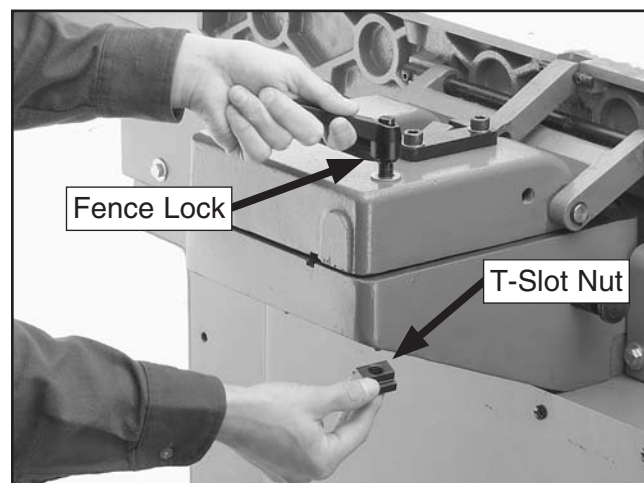

Figure 20. Installing the fence lock.
5. To secure the fence assembly, thread the T-slot nut onto the bottom of the lock shaft so that nut fits up into the slot of the fence support, as shown in **Figure 20**.